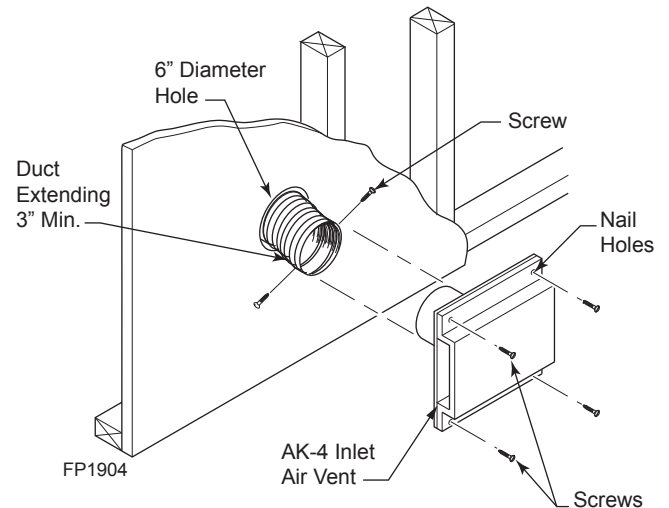

Figure 39 - Combustion Air Assembly for Model No. AK-4
4. Attach outside duct to starting collar with duct clamp or screws. *Figure 39*
5. Cut a 6-inch diameter opening for model AK-4 in the outside wall covering where the outside vent is to be located. *Figure 39*